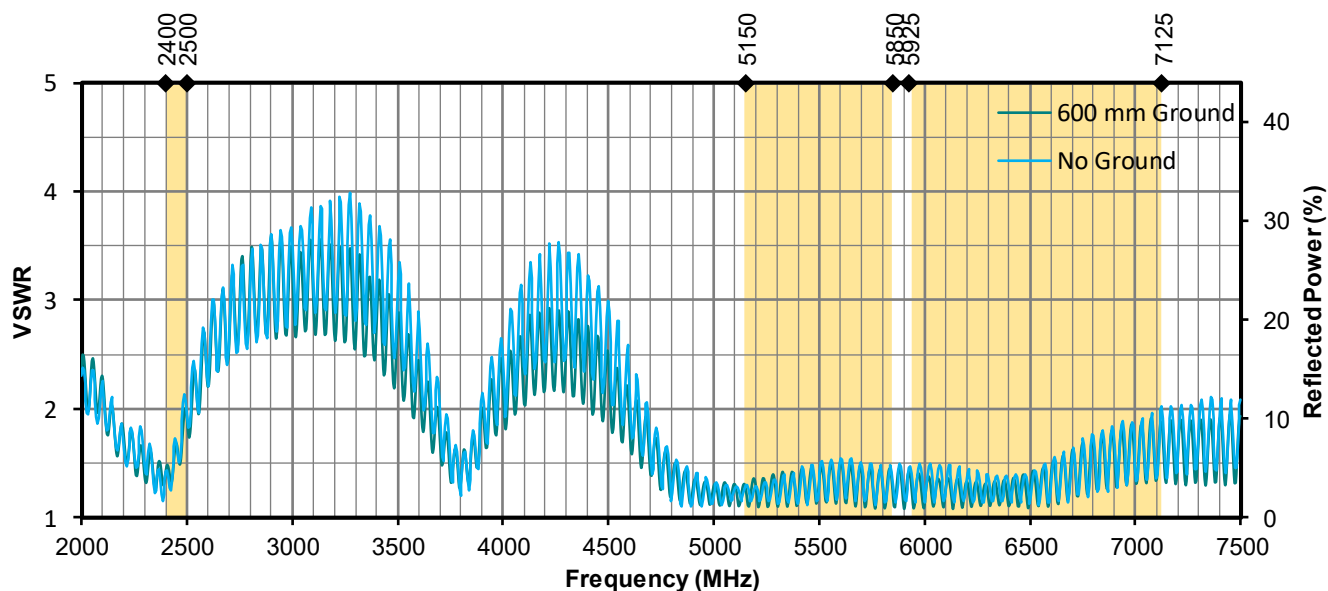

Figure 12. Antenna VSWR, WiFi
**Figure 12** provides the voltage standing wave ratio (VSWR) across the antenna bandwidth. VSWR is a function of the reflection coefficient, which describes the power reflected from the antenna back to the radio. A lower VSWR value indicates better antenna performance at a given frequency. Reflected power is also shown on the right-side vertical axis as a gauge of the percentage of transmitter power reflected back from the antenna.